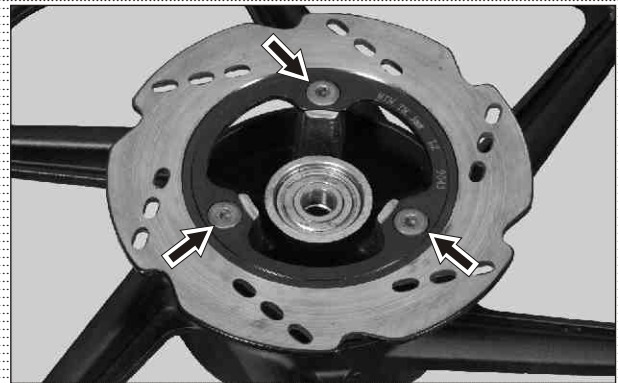

Fig. 6.71
- Remove screw special (M8 - 3 nos) from the disc plate mounting and take out disc plate from the alloy wheel rear. (Fig. 6.71)